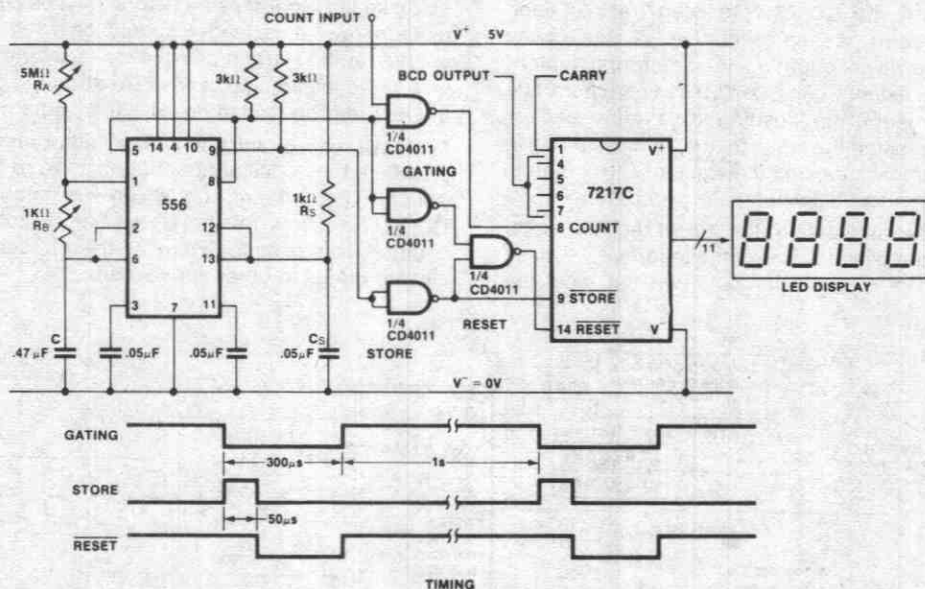

Figure 12: Inexpensive Frequency Counter
This circuit uses an ICM7213 precision one minute/one second timebase generator and a 4.1943 MHz crystal oscillator and divider for generating pulses counted by an CD-7217BC. The thumbwheel switches allow a starting time to be entered into the counter for a preset-countdown type timer, and allow the register to be set for compare functions. For instance, to make a 24-hour clock with BCD output the register can be preset with 2400 and the Equal output used to reset the counter. Note the 10k resistor connected between the LC terminal and V^- . This resistor pulls the LC input low when not loading, thereby inhibiting the BCD output drivers. This resistor should be eliminated and SW4 replaced with an SPDT center-off switch if the BCD outputs are to be used. This technique may be used on any 3-level input. The 100k pullup resistor on the count input is used to ensure proper logic voltage swing from the ICM7213. For a less expensive (and less accurate) timebase, a 555 timer may be used in a configuration like that shown in Fig. 12 to generate a 1Hz reference.
7. INEXPENSIVE FREQUENCY COUNTER/TACHOMETER (Figure 12)
Note that in comparison to Fig. 12, the store and reset signals are generated by CD4000 series one-shots. The operation of the two circuits is similar.